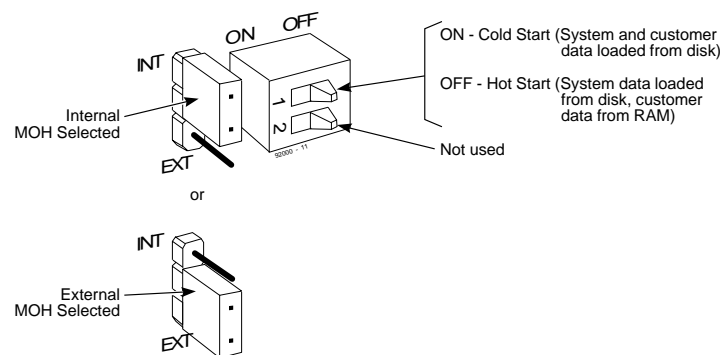

Figure 2-5 SETTING MOH SOURCE AND SYSTEM DATA SOURCE
4. Set the MOH jumper for internal/external MOH source (Figure 2-5). Use the HTVR potentiometer to adjust MOH volume.